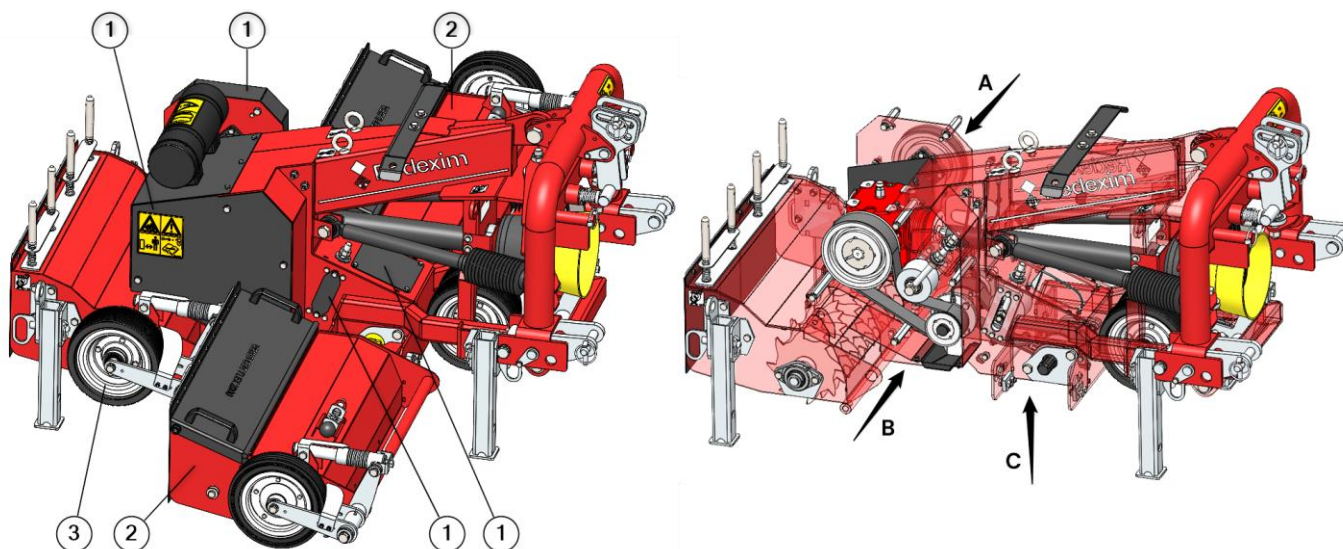

Fig. 22
4. The machine contains 3 timing belts, which are marked A, B and C in Fig. 22.